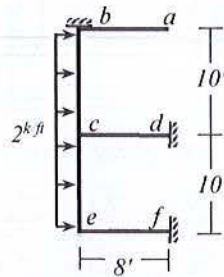

Fig.2
- Use stiffness method (neglecting axial deformations) to calculate the rotations of joints *c* and *e* of the frame *abcdef* loaded as shown in Fig.2